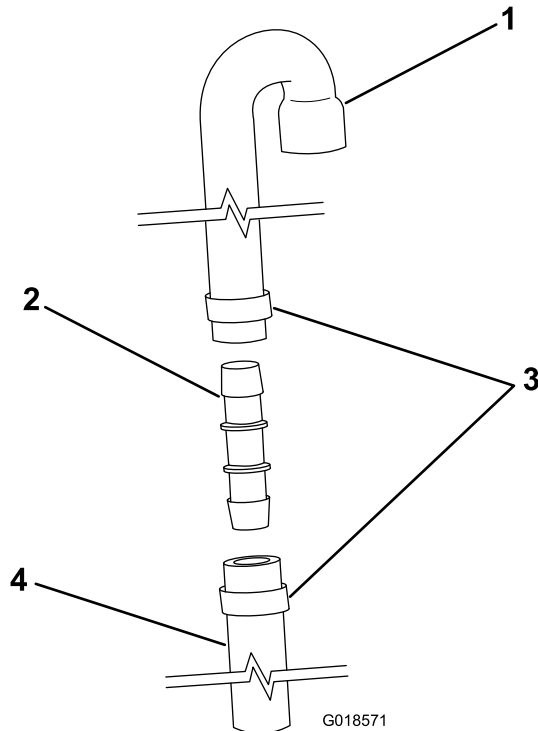

Figure 5
1. Assemble the vent hose and extension with the connector and the hose clamps as shown in Figure 5.